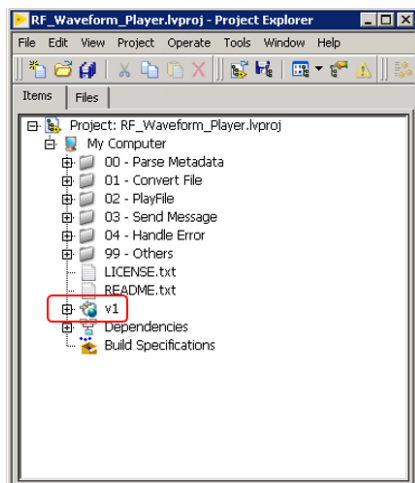
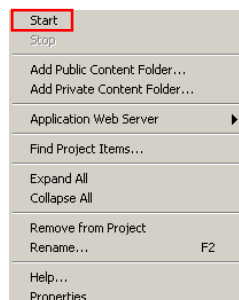

Figure 2a: LabVIEW project window
Figure 2b: Start up LabVIEW player
- The LabVIEW player will appear as shown in Figure 2a.
- b) Start the LabVIEW player by right clicking on the “v1” as shown in Figure 2a. Select “Start” to initiate the session (Figure 2b). A Debug web service window will appear as shown in Figure 3. Click “OK”.